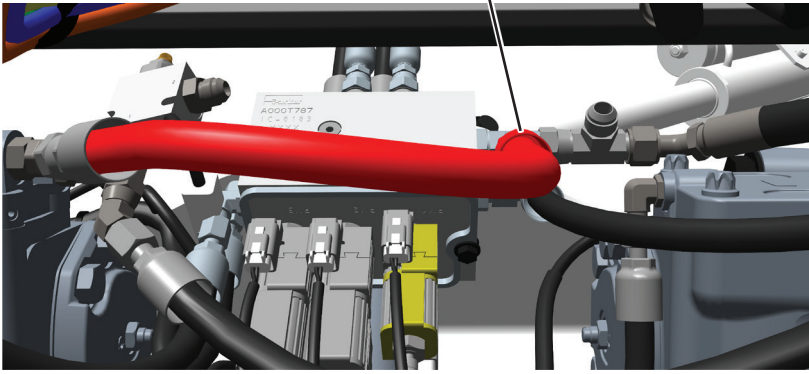

Figure 3. Chute Manifold Hose Removal
5. Disconnect hydraulic hose #3124 from chute manifold inner T-fitting. See Figure 3. Cap/cover end of hydraulic hose to prevent contamination and tie hose end to side.